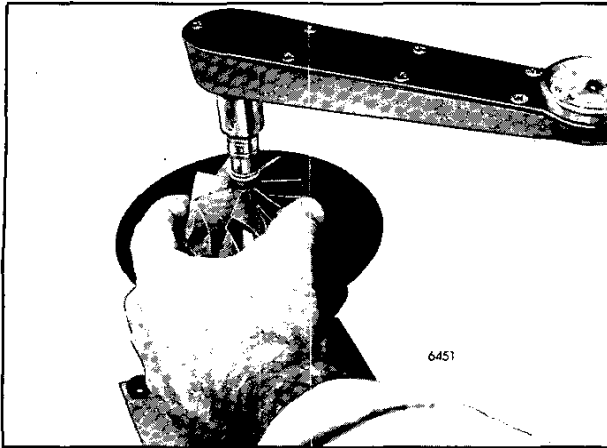

Fig. 23 - Tighten Locknut
13. Lightly lubricate the shaft threads and wheel face that will be under the nut with engine oil and install the locknut on the shaft. Tighten the 1/4"-28 nut to 2 N·m (18-20 lb-in) torque above the drag torque required to bottom the locknut (Fig. 23). Bottoming of the locknut will be indicated by the sharp increase above the drag torque observed while running the nut down.